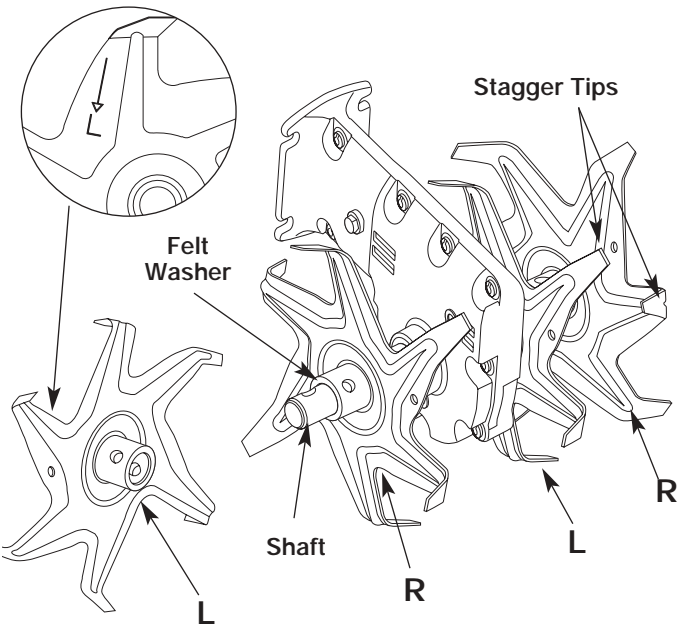

Fig. 7
7. Before you reinstall the clevis pins and pin clips, ensure that the tips on the tines are staggered when compared to each other (Fig. 7).